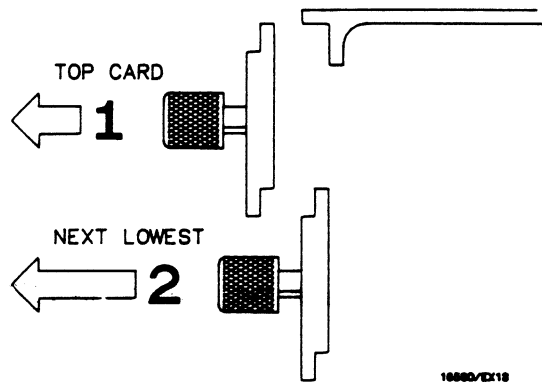

Figure 2-7. Endplate Overhang
- c. Starting from the top, begin pulling all cards out **half way**. See figure 2-7.